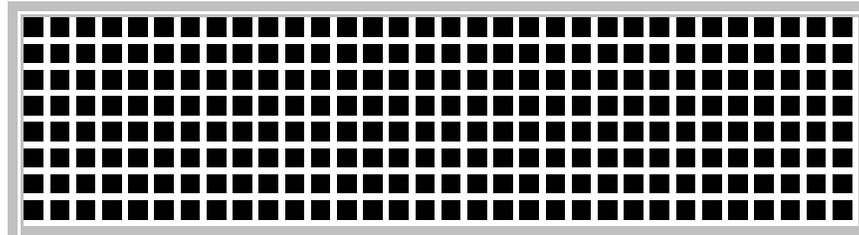

Fig 14-5
- Dot Matrix Mode. To simulate the dot matrix type of LCD panel or not. The dot matrix screen is similar to Fig 14-5.